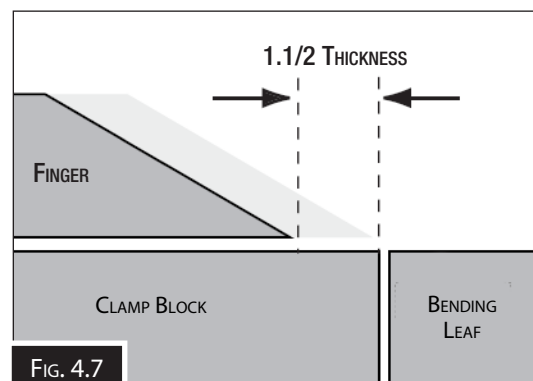

FIG. 4.7
4. Adjust setback so the finger tips are set back from the bending leaf edge a minimum of 1-1/2 times the metal thickness. (Fig.4.7)